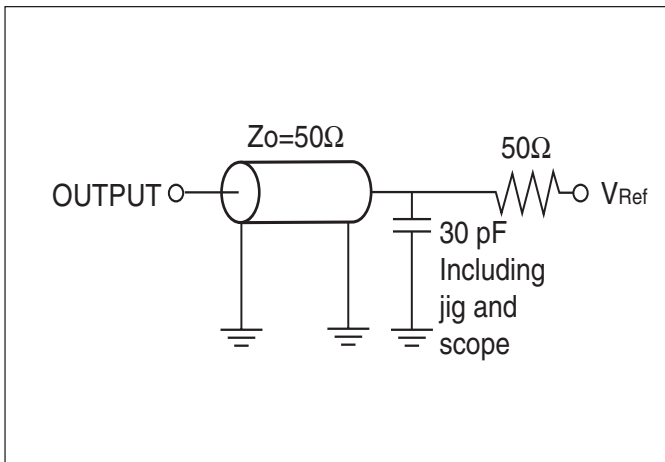

Figure 1a.
1. Test conditions assume signal transition times of 1.5 ns or less, timing reference levels of 1.25V, input pulse levels of 0V to VDD V and output loading specified in Figure 1a.
1. Test conditions for IS61WV6416BLL assume signal transition times of 1.5ns or less, timing reference levels of 1.25V, input pulse levels of 0V to VDD V and output loading specified in Figure 1a.